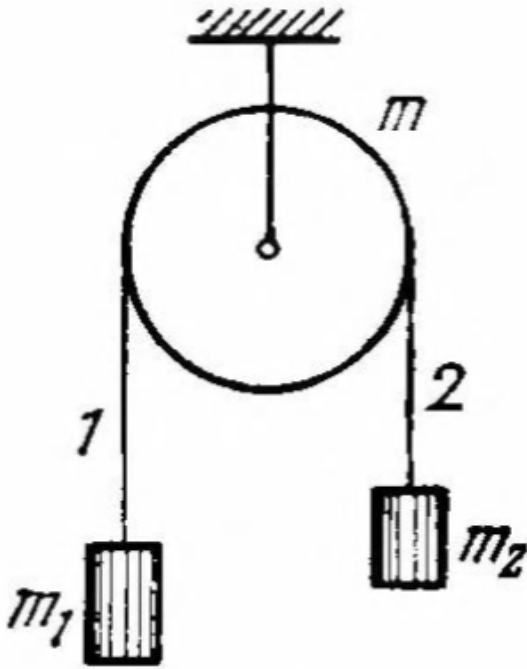

Figure 5: Pulley with friction
12. In the arrangement shown in Fig. 5 the mass of the uniform solid cylinder of radius R is equal to m and the masses of two bodies are equal to m_1 and m_2 . The thread slipping and the friction in the axle of the cylinder are supposed to be absent. Find the angular acceleration of the cylinder and the ratio of tensions T_1/T_2 of the vertical sections of the thread in the process of motion. *Hint:* Tension force goes toward acceleration the mass at the end of the rope, but also toward rotating the cylinder. (Irodov)